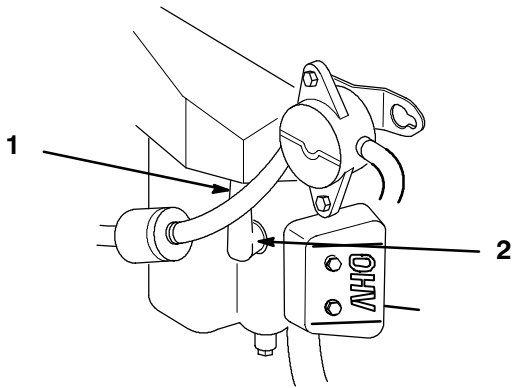

Figure 45
2. Pull the wire(s) off the spark plug(s) (Fig. 45). Now clean around the spark plug(s) to prevent dirt from falling into the engine and potentially causing damage.
3. Push the wire(s) onto the spark plug(s) (Fig. 45).